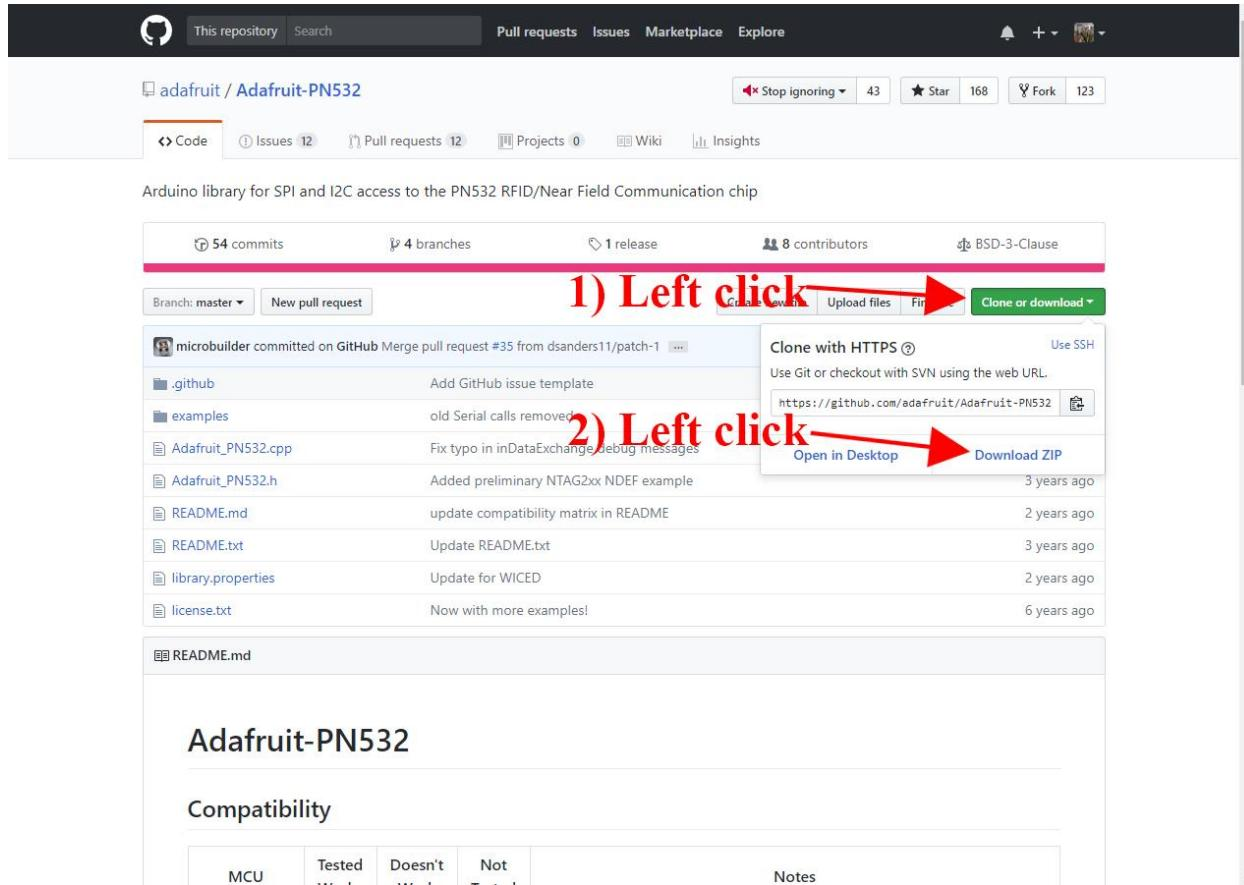

Figure 6-2 – Adafruit PN532 software library download instructions
2. Download the Adafruit PN532 software library. Refer to Figure 6-2 for visual assistance.